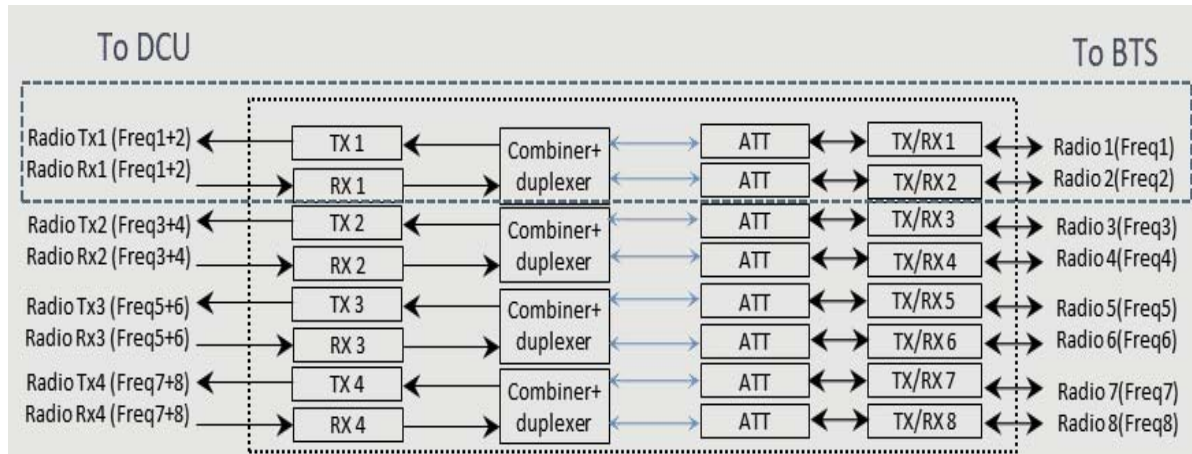

Figure 3. 2 TO 1 Matrix
- **Signal combination:** The RIU combines different base station signals into one wideband signal, the combination matrix of which is software-controllable, listed in Figures 3 through 5.